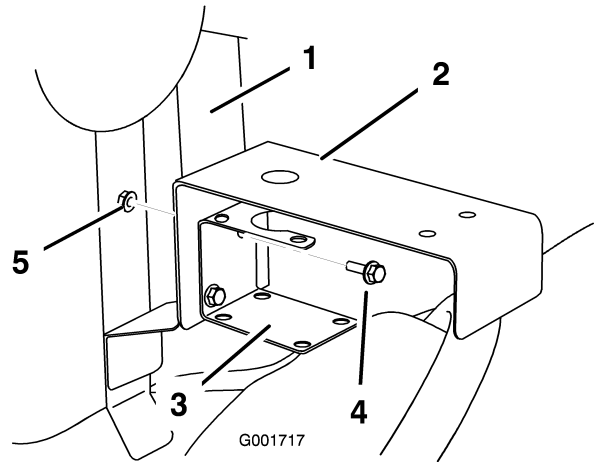

Figure 8
5. Install the control valve bracket between the supply tee bracket and the mounting frame (Figure 8) using the fasteners removed previously.